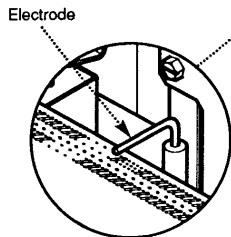

Fig. 21
2. Check that the electrode is sparking to the burner (Fig. 21) when the ignition (⊕) button is depressed on the switch at the top right of the appliance.